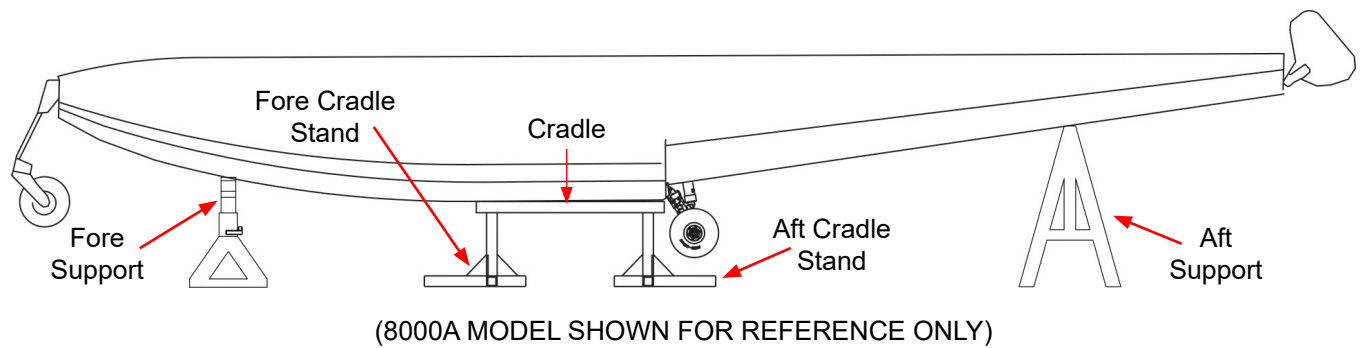

FIGURE 3.4 FLOAT SECURING LOCATIONS OVERVIEW
1. Raise aircraft high enough to place float cradle under floats as shown in Figure 3.4.
2. Lower aircraft onto float cradle as shown in Figure 3.4.
3. Place fore and aft supports as shown in Figure 3.3 and Figure 3.4.
4. Secure floats with fore and aft supports as shown in Figure 3.3 and Figure 3.4.
5. Remove all fore and aft supports as shown in Figure 3.3 and Figure 3.4.